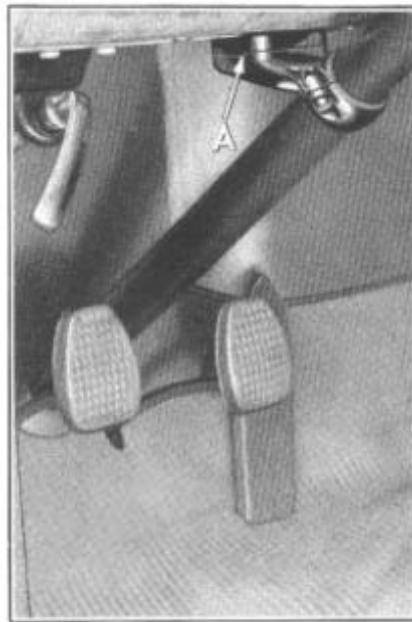

Figure 31
The steering wheel has been designed to afford a maximum of vision to the instrument panel, particularly the speedometer located in the left-hand compartment door. The rim provides a natural grip to prevent cramping of the hands. To insure the best steering wheel position, a shim adjustment is provided in the steering gear column bracket. By removing the shim (A), Figure 31, the height of the steering wheel may be raised approximately $\frac{5}{8}$ inch. An additional shim may be installed to lower the wheel position. Your Hudson dealer will be glad to make this adjustment should it be required.